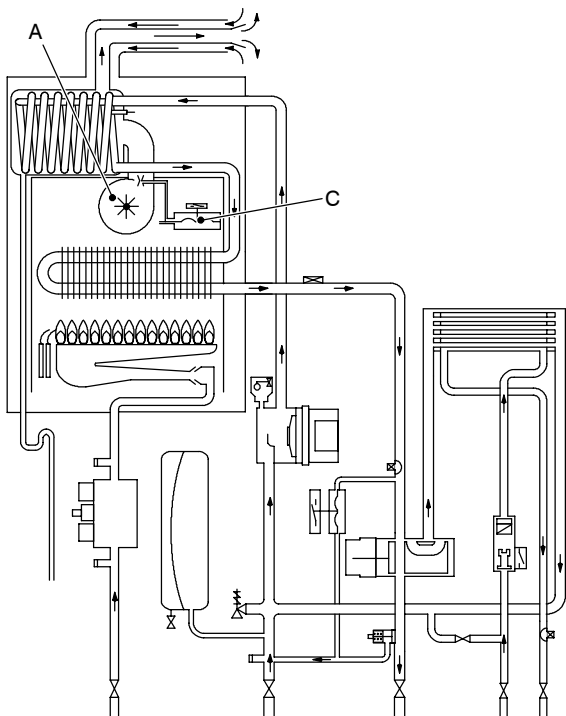
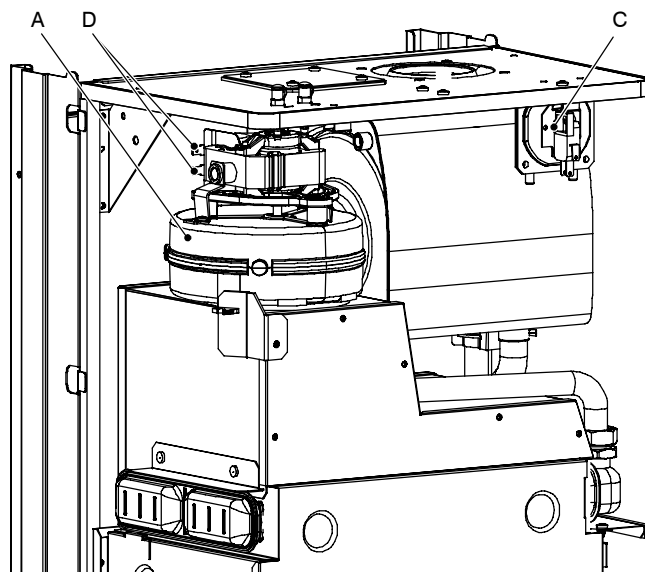
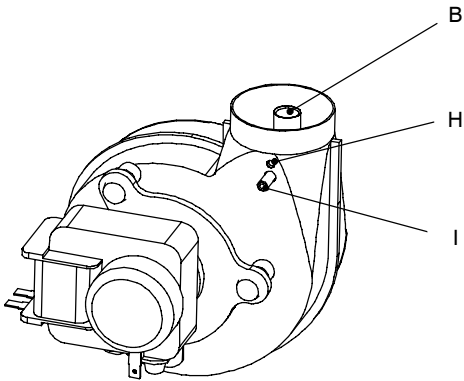

Fig. 77
Fig. 78
Fig. 83
The function of the Fan A (Fig. 77 and Fig. 78) is to force the products of combustion through the condensing heat exchanger to the outside air via the flue system.
Its correct functioning is controlled by means of a system incorporating a built in venturi device (B in Fig. 83) and an Air pressure switch C (Fig. 77 and Fig. 78).
- 2 Disconnect the connectors D (Fig. 78) and measure the electrical resistance of the motor that has to be about:
- 2 Disconnect the connectors *D* and the earth connection *E* (Fig. 78).